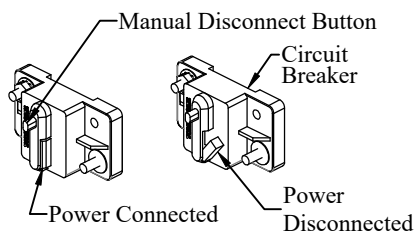

Figure 2: Circuit Breaker
2. **Disconnect** the power cable from the positive side of the battery or manually **Trip** the circuit breaker (Figure 2).